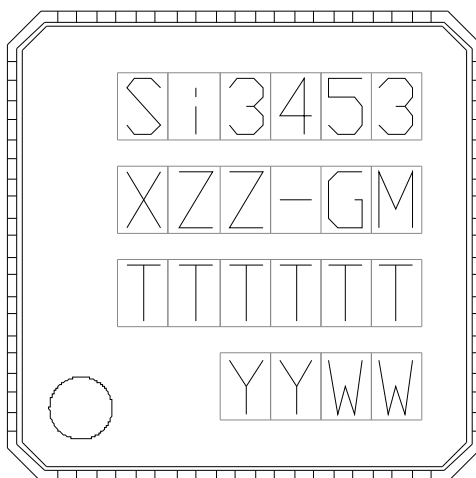

Figure 9. Device Marking Diagram
- Updated Figure 9, "Device Marking Diagram," on page 35.